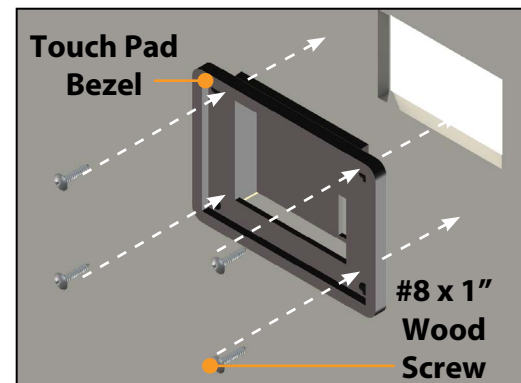

Fig.19
5. Insert the touch pad bezel into the cutout and attach it with four #8 x 1" wood screws with sufficient length to thread into the compartment wall (Fig. 19).